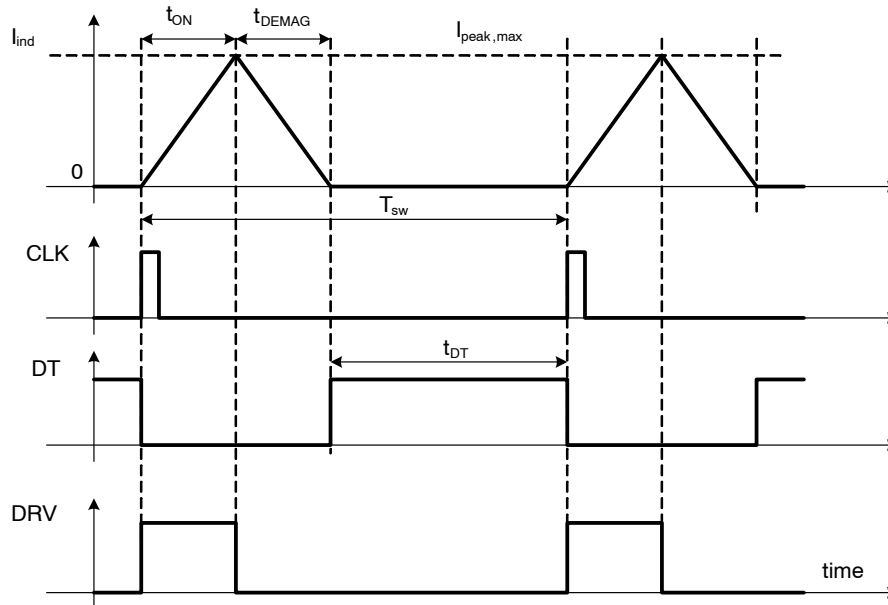

Figure 6. NCP1622 Clock, Dead Time and  $t_{ON}$  Waveforms
The Frequency Foldback (FF) system adjusts the on-time versus  $t_{DT}$  (see Figure 6) and the output power in order to ensure that the instantaneous mains current is in phase with the mains instantaneous voltage (creating a PF=1).